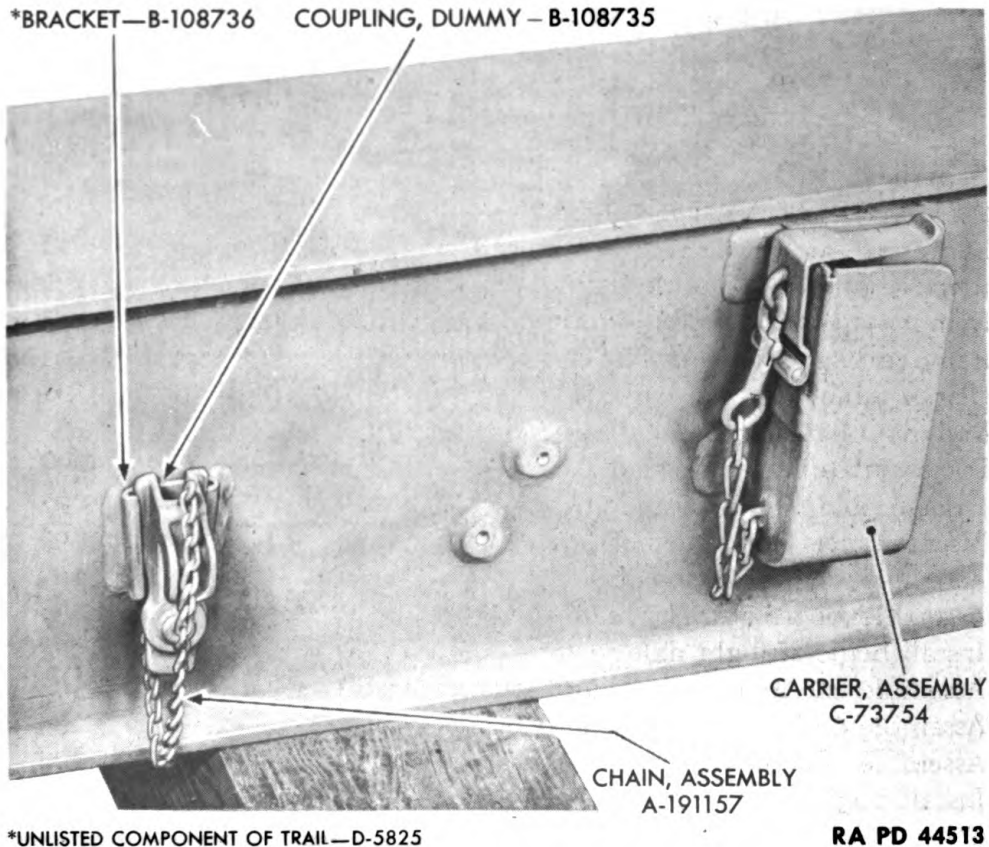

Figure 240—Dummy Hose Coupling and Rammer Staff Carrier
(1) Examine all brackets and fittings attached to each trail. When badly damaged, replace with new parts.
(2) Replace a broken dummy coupling chain or rammer staff carrier chain with new parts (fig. 240). Straighten a bent rammer staff carrier.